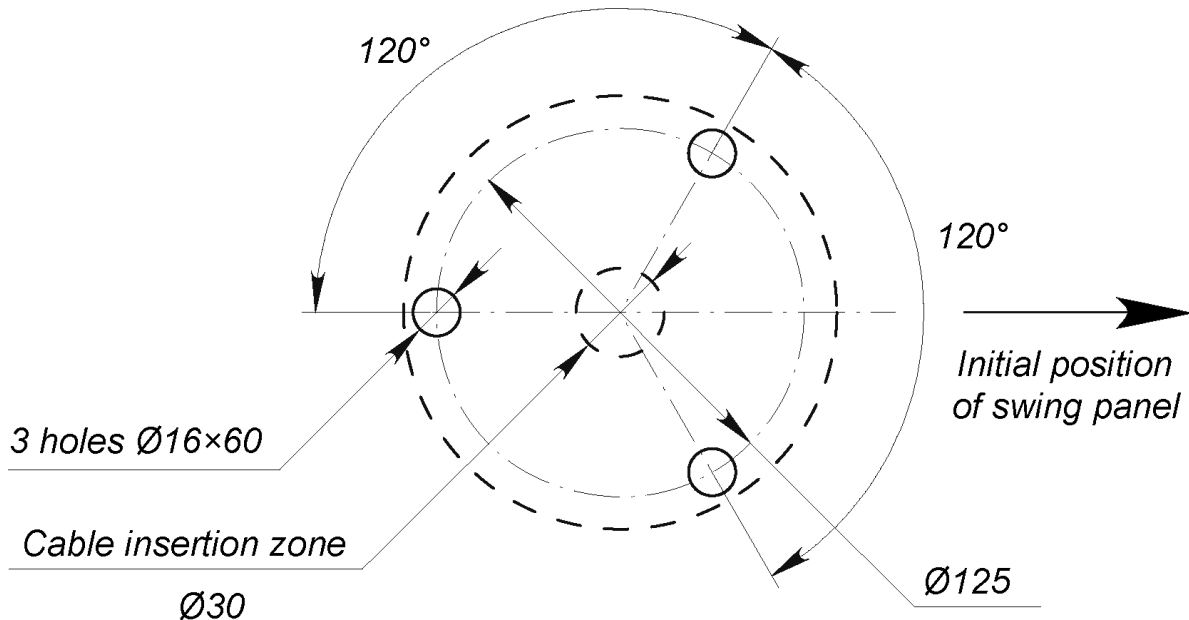

Figure 8 . Mounting hole pattern for installation of the swing gate¹
- mark the mounting holes strictly according to the enclosed mounting hole pattern (see Figure 8); the recommendations are given assuming that the swing gate comes complete with anchor bolts for solid concrete floors;
2. Make the marking for installation of the swing gate on the floor in accordance with Figure 8 and marking of cable ducts for laying the control cable and power cable. Prepare a cable duct in the floor and make mounting holes for anchors to fix the swing gate post. Insert the anchor sleeves into the prepared holes to the full depth. Guide the control cable and power cable through the cable duct from the control unit to the gate post.